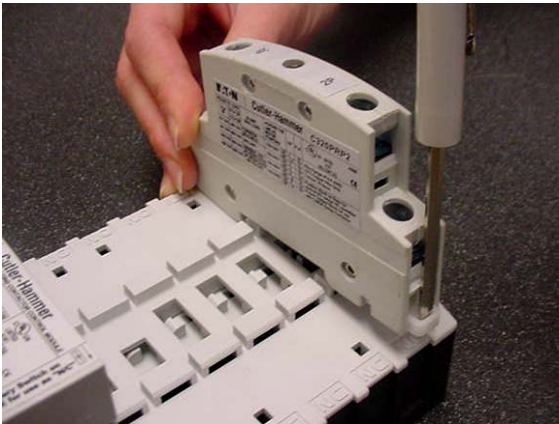

Figure 2
- Remove block by using a screwdriver to pull the clip as shown (see Figure 2). Rotate block 180 degrees to convert from NO to NC or from NC to NO and install per 2.3 below.